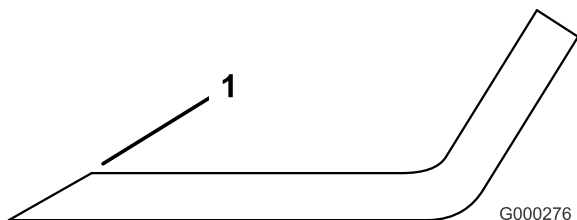

Figure 95
1. Use a file to sharpen the cutting edge at both ends of the blade (Figure 95). Maintain the original angle. The blade retains its balance if the same amount of material is removed from both cutting edges.